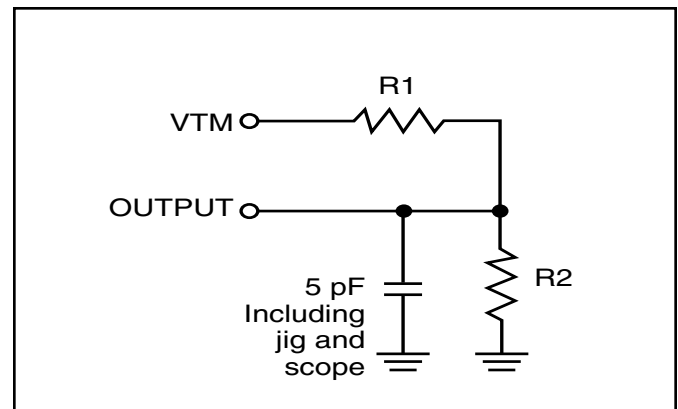

Figure 2
2. Tested with the load in Figure 2. Transition is measured ±100 mV from steady-state voltage. Not 100% tested.
3. Tested with the load in Figure 2. Transition is measured ± 100 mV from steady-state voltage. Not 100% tested.